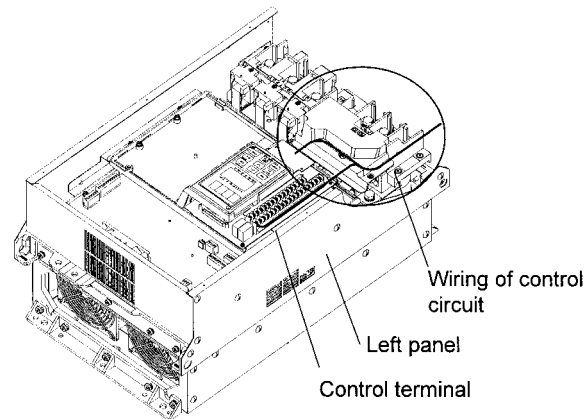

Fig. 2-3-12 The Control Wiring Route
1. Pull out the control circuit wiring along the left panel as shown in Fig. 2-3-12.